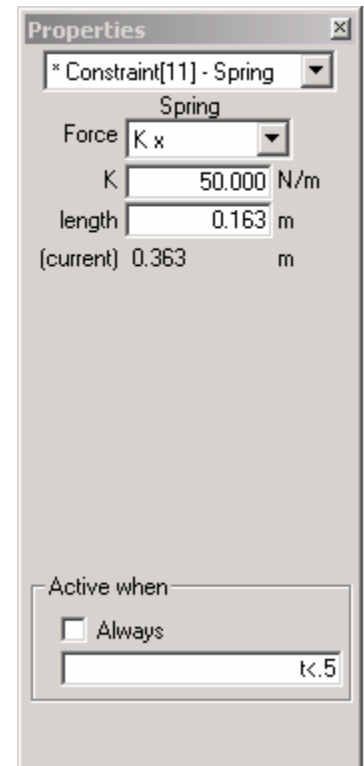

Figure 24. Step 7, spring properties.
7. Modify the free-length of the spring by selecting opening the spring’s properties menu. This will place the spring in a deflected initial position that will apply a force to the system.  $F=kx$ . Figure 24. The “Active when” setting can also be modified to allow the spring to only act on the system if some condition (such as  $t < .5$ ) exists.